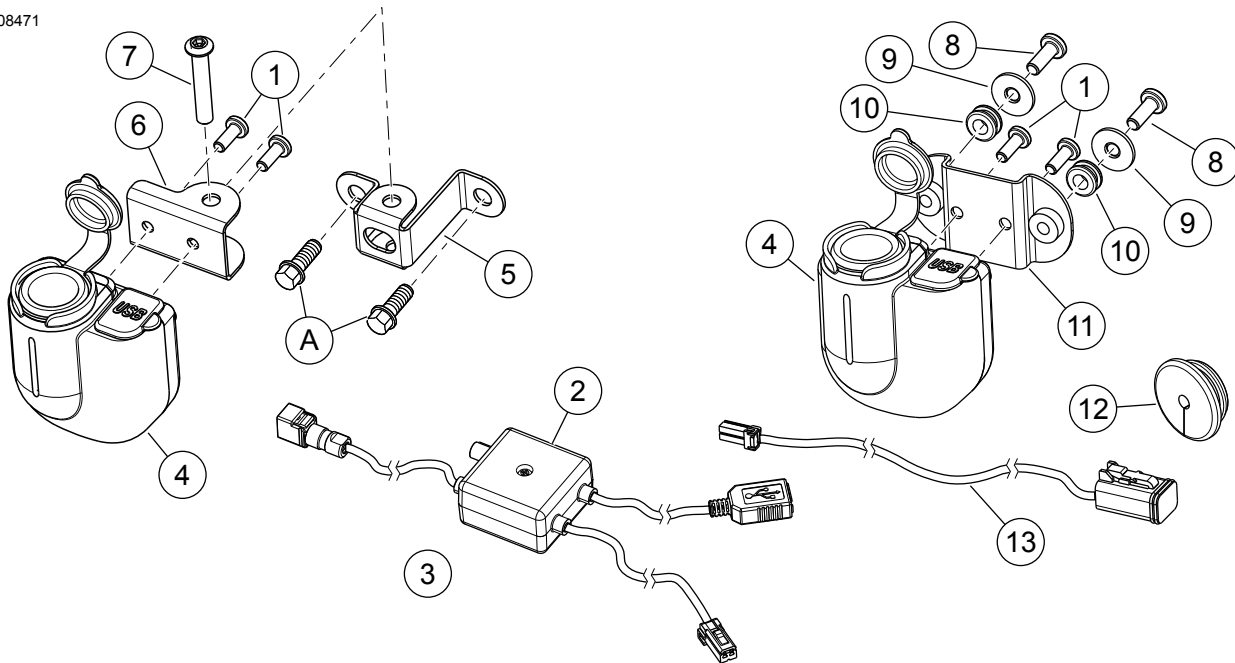

Figure 7. Service Parts: USB/Power Outlet
See Figure 7 and Table 1.
13. See Figure 7. Install cable (13) to accessory plug. See the service manual.